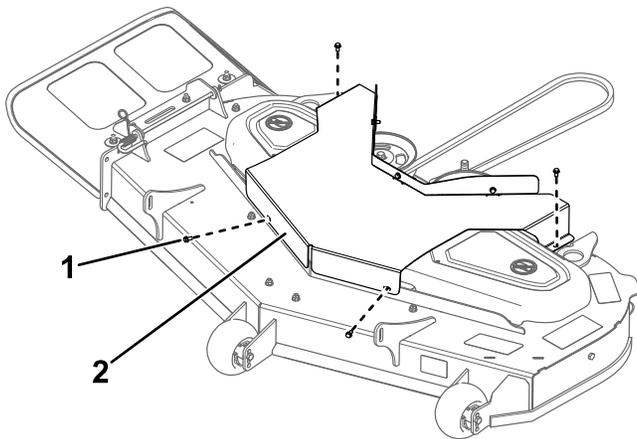

Figure 28
1. Bolt (2)
4. Remove the 4 bolts securing the deck guard and remove the guard (Figure 28).